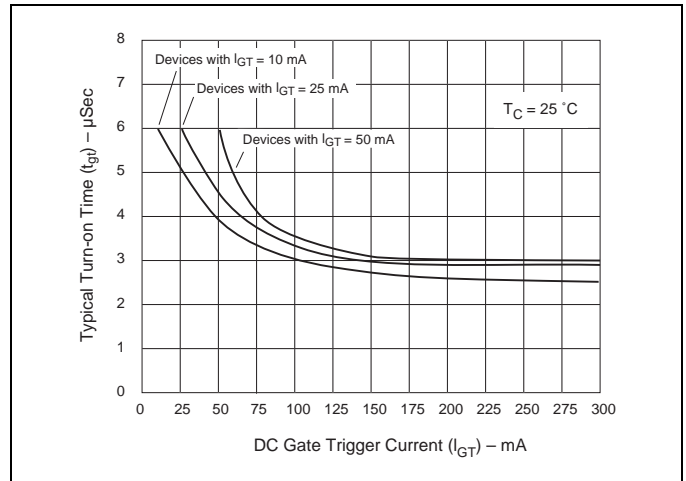

Figure E2.15 Turn-on Time versus Gate Trigger Current (Typical)
- See Figure E2.15 for  $t_{gt}$  versus  $I_{GT}$ .